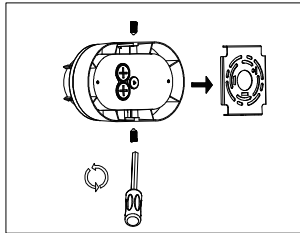

Fig 1
1. Use the hex tool to remove the two set screws and remove the mounting plate. (Fig 1)